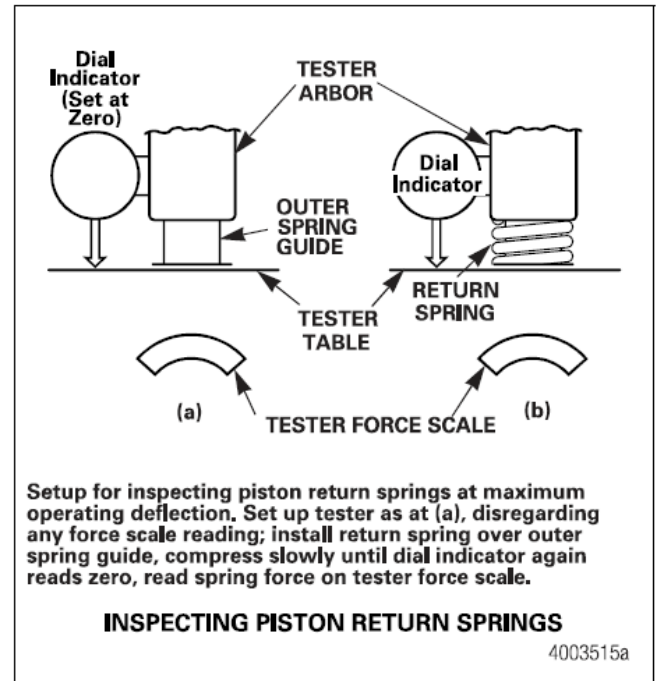

Figure 4.7
2. Measure the spring force at maximum service deflection of a spring tester. Use an outer spring guide for test setup purposes. Figure 4.7.
3. Set up the dial indicator between the tester arbor and the table. Place the outer spring guide under the tester arbor. Lower the arbor firmly onto the spring guide. Disregard any tester reading, Hold the arbor in this position and set the indicator dial to ZERO, as shown in View A Figure 4.7.
4. Raise the arbor. Place the return spring over the spring guide and lower the arbor slowly until the dial indicator again reads ZERO. Read the spring force on the tester scale, as shown in View B Figure 4.7.